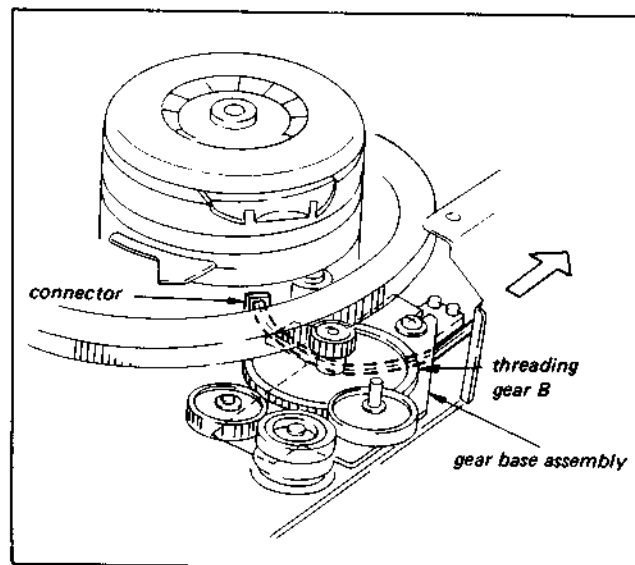

Fig. 3-5. Replacement of drum ass'y (3)
As shown in Fig. 3-5, pull the connectors in the direction of the arrow so that the leads do not touch threading gear (B).